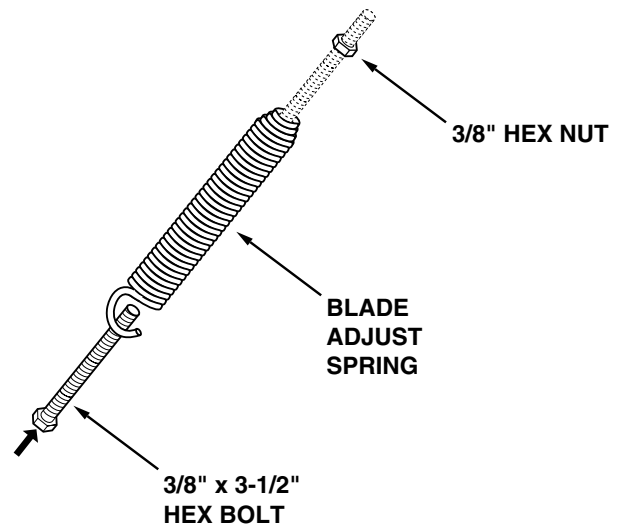

Figure 6
- Insert the 3/8" x 3-1/2" hex bolt through the angle lock spring. Assemble a 3/8" hex nut about 1" onto the end of the bolt. See figure 6.